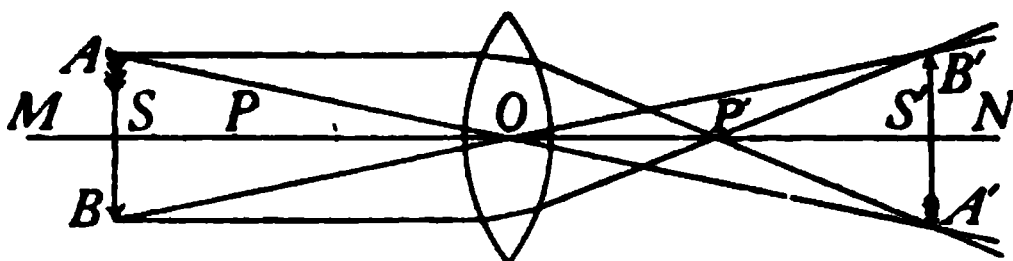

FIG. 383.—Construction of a real image by a convex lens
right angles to its greatest diameter and along this axis are certain definite positions as shown in Fig. 383. Let MN be the *principal axis* of a convex lens, P and P' are *principal foci* on either side of the lens, S and S' are *secondary foci*. These are at points on the principal axis that are twice as far from O , the center of the lens, as are the principal foci. In the formation of images by a convex lens, several distinct cases may be noticed:
(A) If a luminous body is at a *great distance* at the left, its light is brought to a *focus* at P , or its *image is formed at P*. (B) As the *object approaches* the lens the *image gradually recedes* until the object and image are at S and S' , *equally distant from O and of equal size* (as in Fig. 383). The object and image are now said to be at the *secondary foci* of the lens. (C) As the *object moves from S to P* the image recedes, rapidly increasing in size until (D) when